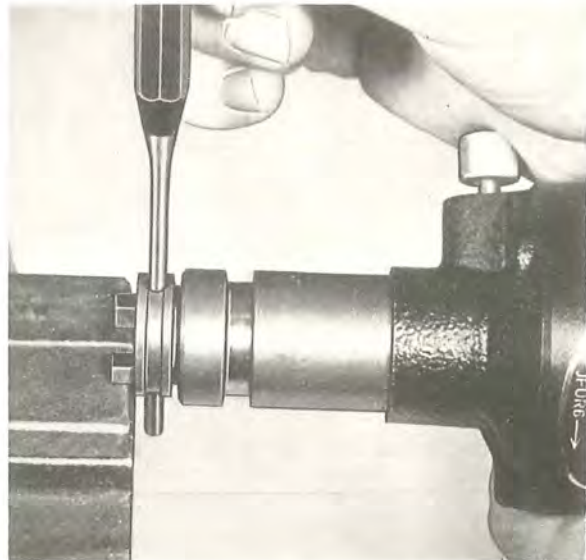

Fig. 3-53. Removing the driving collar
4. Remove the resilient ring (13, Fig. 3-48) and mark up how the driving collar (14, Fig. 3-48) is located in relation to the distributor shaft. Tap out the pin (Fig. 3-53), lift off the driving collar and pull up the distributor shaft. Check that no washers have been lost.